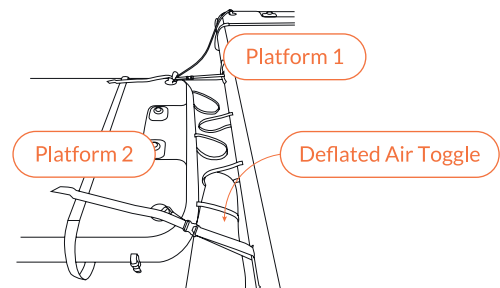

Fig 108 – Remove deflated Air Toggle
4. Deflate and remove the Air Toggle from the Air Toggle loops. (Fig 108), put somewhere safe to prevent it from going overboard.